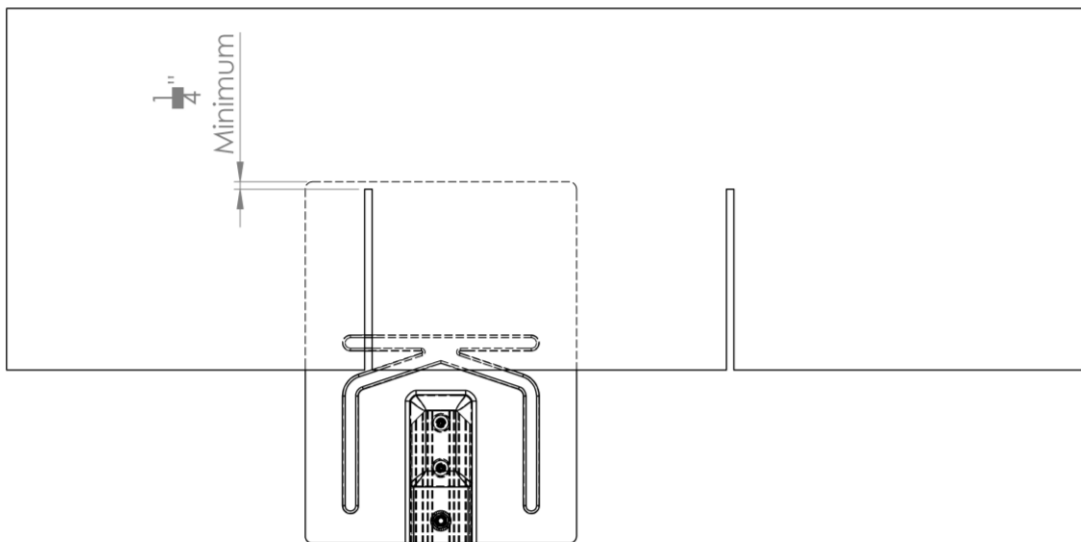

Figure 22 Flashing Positioning
- i. Measure and mark the appropriate bracket locations. Use a measuring tape to ensure chalk lines are straight and square. When marking, take care to ensure that the top of the flashing is at least $\frac{1}{4}$ " above the top of the slit in the shingle (Figure 22 Flashing Positioning)